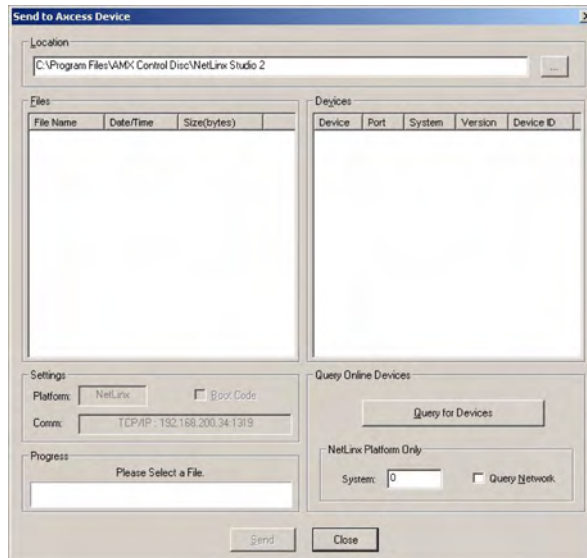

FIG. 5 Send to Access Dialog Window
5. Go to **Tools > Firmware Transfers > Send to Axcess Device...** This opens the *Send to Axcess* Dialog Window(FIG. 5)..